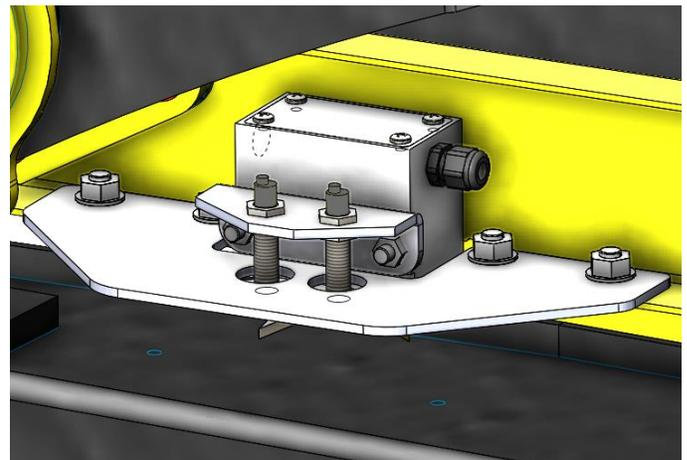

Figure 4
5. Locate the end of baler sensor bracket (001-4644SS) and the two bale rate sensors (006-7303S). The sensors will be pre-mounted to the bracket. Mount the bracket and sensors as shown in Figure 4. Sensors only mount on the left side of baler.